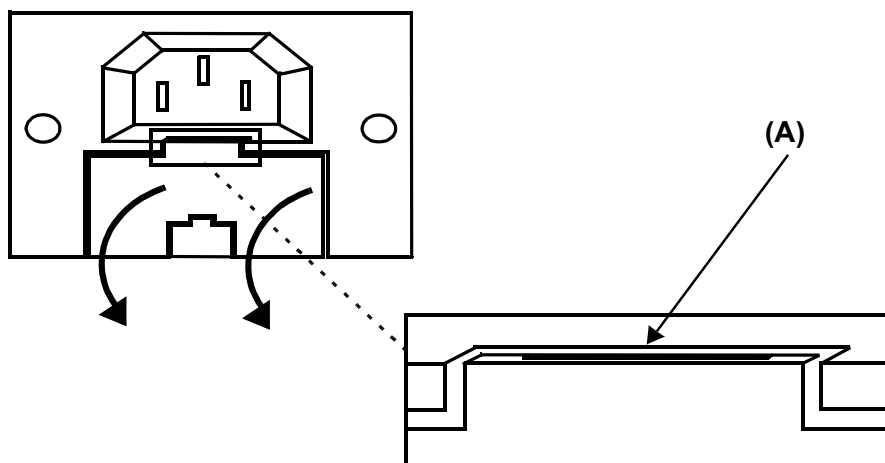

Fig. 30 - Opening the fuses houses
1. open the fuses housing slot as shown in Fig. 30: open the door of the fuses housing using a screwdriver as shown in figure.